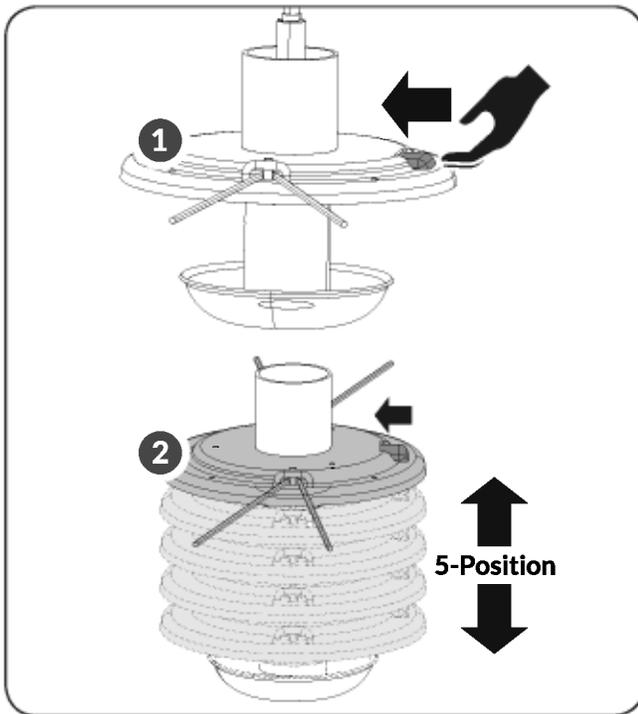

Figure 7a
1. To adjust the trimming height, push the trimmer head height adjusting plate tab in towards the axis, holding on and moving the trimmer head up or down to the desired position. If the head will not disengage, slightly rotate the head while pushing the height adjusting plate tab. (See **Figure 7a, illustration 1 & 2**)